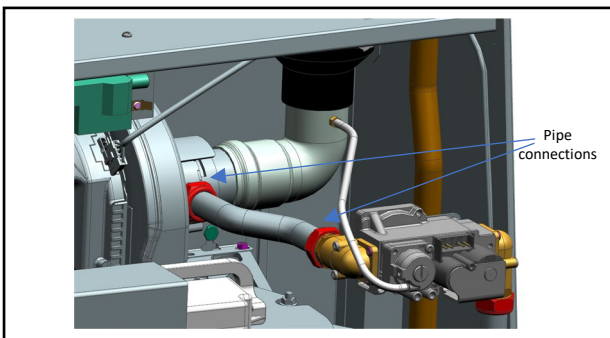

Fig. 4
- Ensure appliance gas valve reference tube is correctly installed and connected with no kinks or splits (Fig.4).
- Replace fiber washers with the new ones provided (hardware box) (Fig.4).